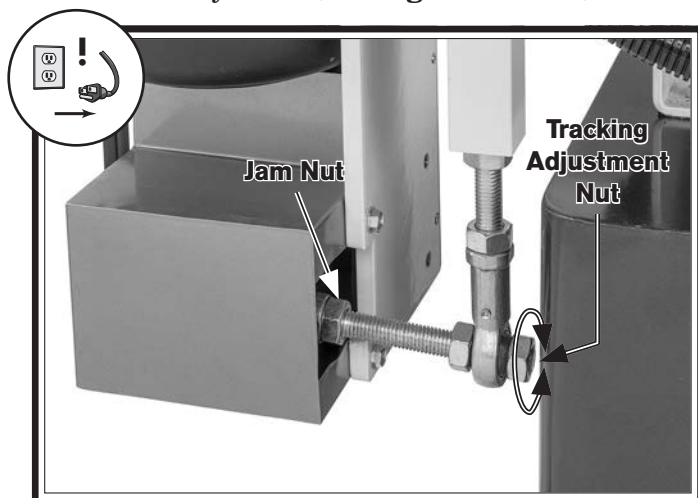

Figure 40. Belt tracking components.
3. Loosen jam nut shown in **Figure 40**.
4. Turn tracking adjustment nut in 1-turn increments to adjust tracking until sanding belt tracks centered on drive wheel when rotated by hand (see **Figures 40–41**).